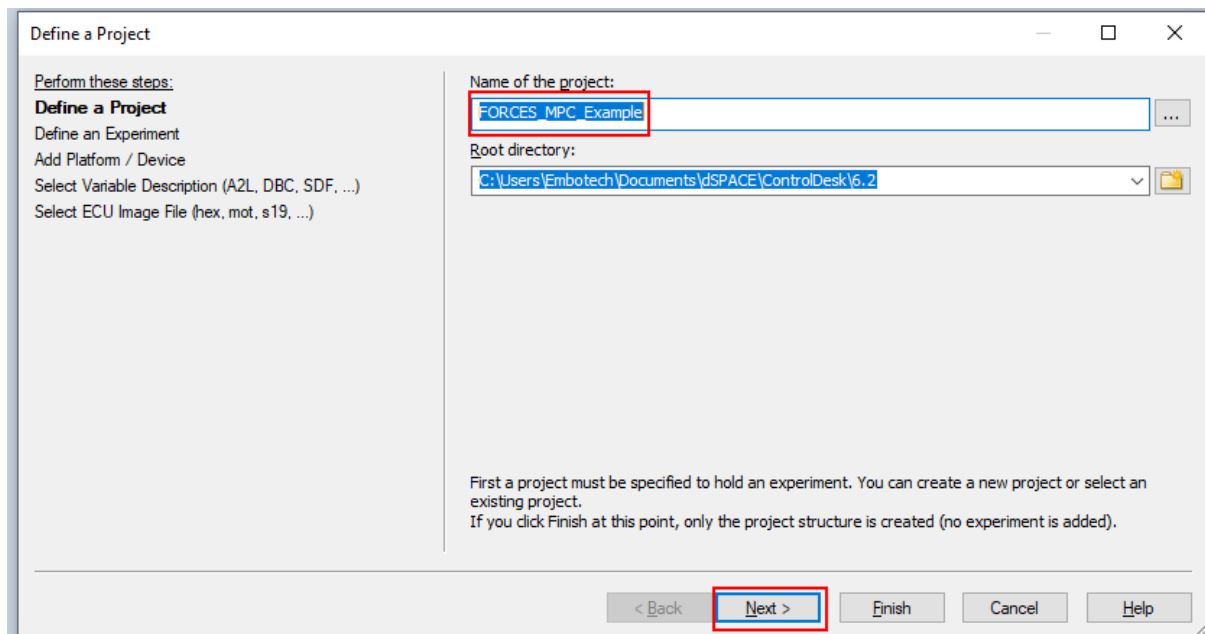
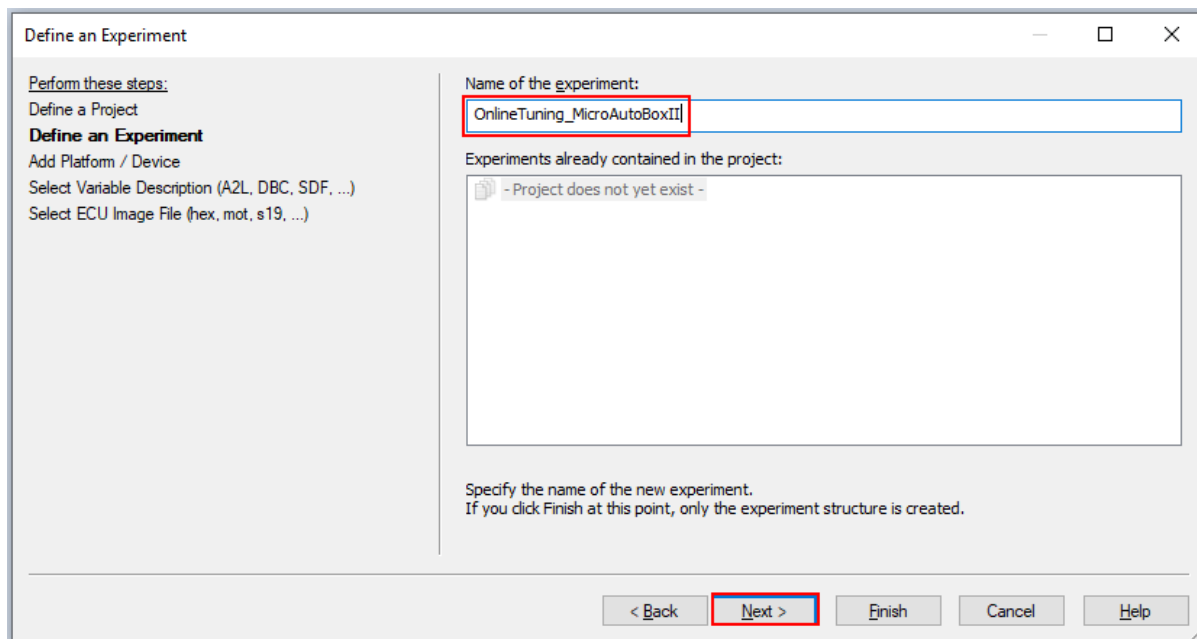

Figure 5.9: Name your project
Figure 5.10: Name your experiment
- 7) Name the project and the experiment (see Figure 5.9 and Figure 5.10).